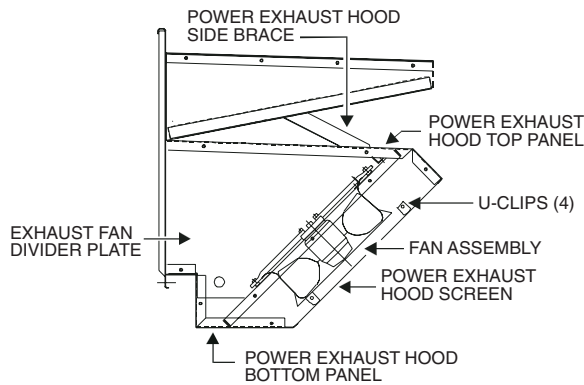

Fig. 26 — Power Exhaust Hood Cross Section
7. Slide the fan assembly into the power exhaust assembly, and secure to the side panel. (See Fig. 26 and 30.)
8. Attach the U-Clips provided to the hood screen, and then to the fan assembly. (See Fig. 26 and 27.)
9. Attach the exhaust fan divider plate to the exhaust fan assembly between the two fans. (See Fig. 26.)